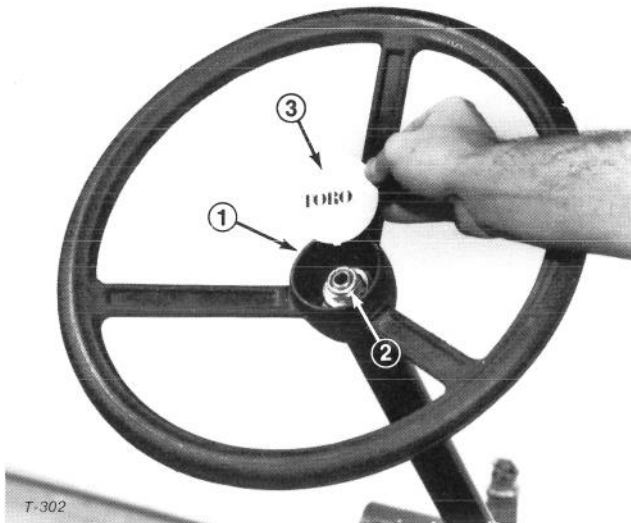

Figure 4
2. Remove jam nut from steering shaft. Slide steering wheel onto steering shaft. (Fig. 4).
3. Secure steering wheel in place with jam nut (Fig. 4) and tighten it to 70 ft-lb (95 N·m).
4. Insert tab of steering cap into cutout in steering wheel hub (Fig. 4). Press cap into groove in hub.